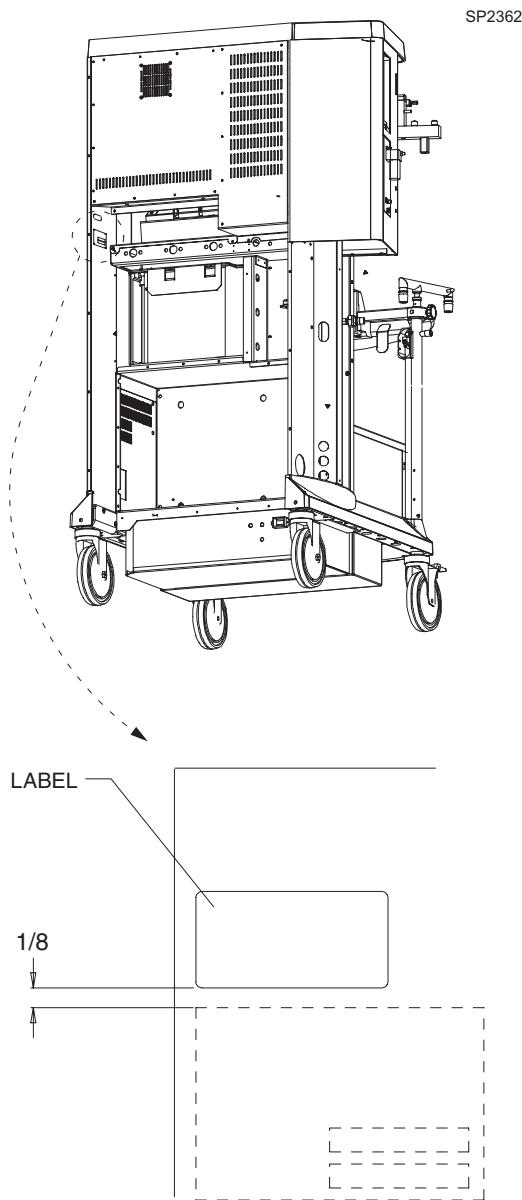

FIGURE 25. Label Installation
- 3.46 Attach the SW 3.01 label P/N 4117725 above the serial number label at the back of the machine where shown in FIGURE 25. If an option requiring a Keylok was enabled, attach its corresponding label above the SW 3.01 label.